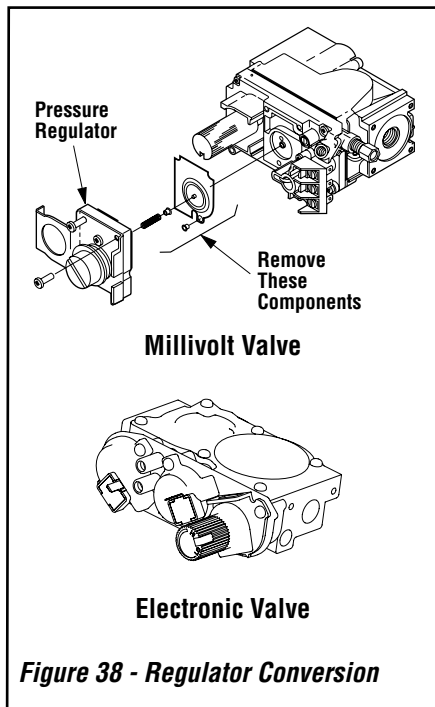

Figure 38 - Regulator Conversion
Step 1. SIT Systems - Refer to *Figure 38* and the instructions provided with the SIT Regulator Conversion Kit. Using a Torx T20 driver to remove and discard the pressure regulator mounting screws (two screws for electronic models, three screws for millivolt models), pressure regulator tower, the diaphragm assembly (if applicable) and the spring. Discard all removed components.